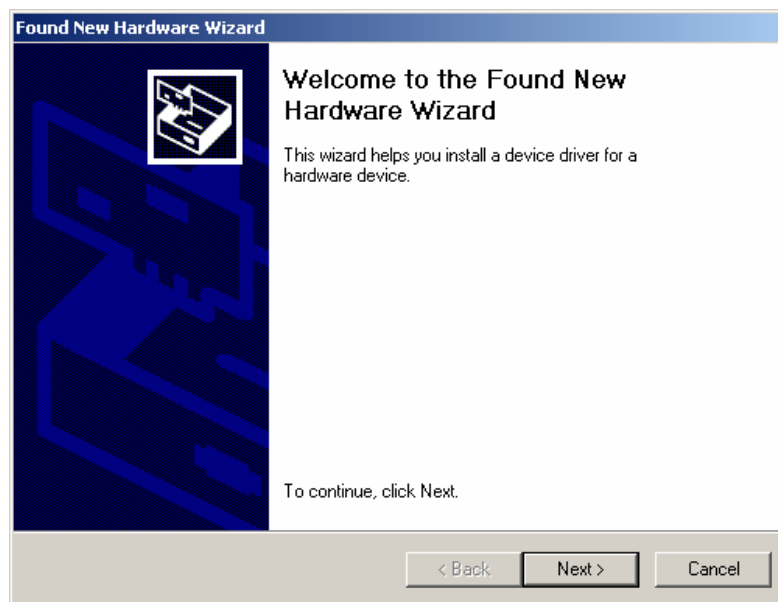

Figure 1. Found New Hardware Wizard Window
4. Now, verify that the "Found New Hardware Wizard" window is displayed as shown in Figure 1.